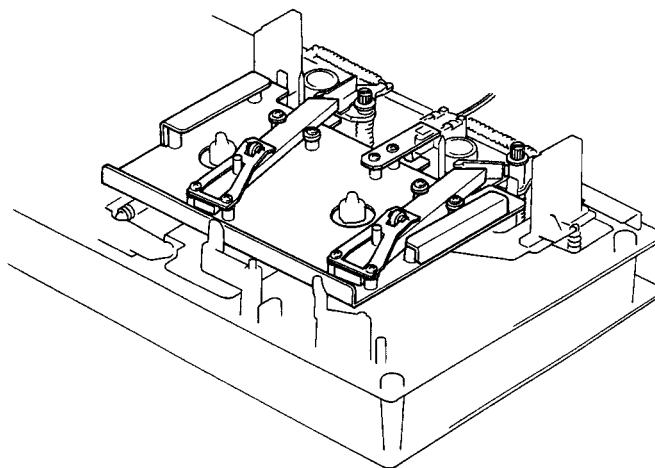

Fig. 5.9
Remove Head Mount Base Ass'y referring to item 3.28. Refer to Figs. 5.9 and 5.10.